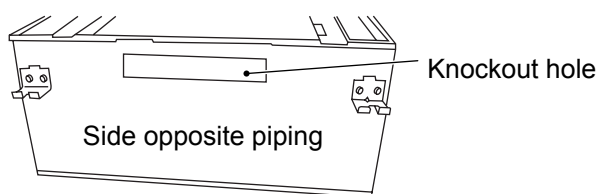

Fig.1
- (1) Cut the knockout hole (45×240) on the side opposite to the piping with nippers.
- (2) Cut out and remove the thermal insulation on the inside around the knockout hole (see Fig.1).